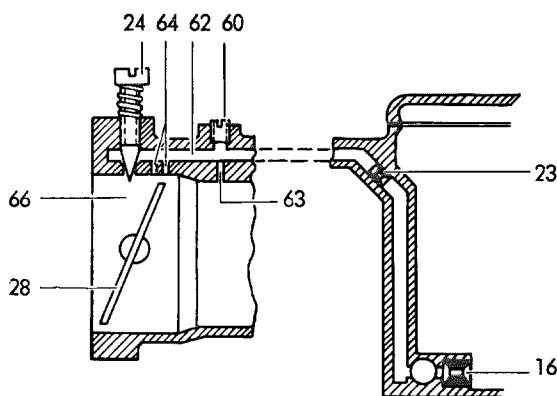

Fig. 07-0/43
When the engine reaches a speed of approx. 3500 rpm under full load, the throttle valve (26) of stage 2 begins to open. The fuel drawn in through the idle fuel jet (23) combines with the air entering through the idle air bore (63) to form a mixture in the idle canal (62). This mixture emerges at the by-pass bores (64) as soon as the throttle valve (26) of stage 2 opens. This additional enrichment of the fuel-air mixture prevents a change-over shock when stage 2 is brought into operation (see Figs. 07-0/42 and 07-0/43).